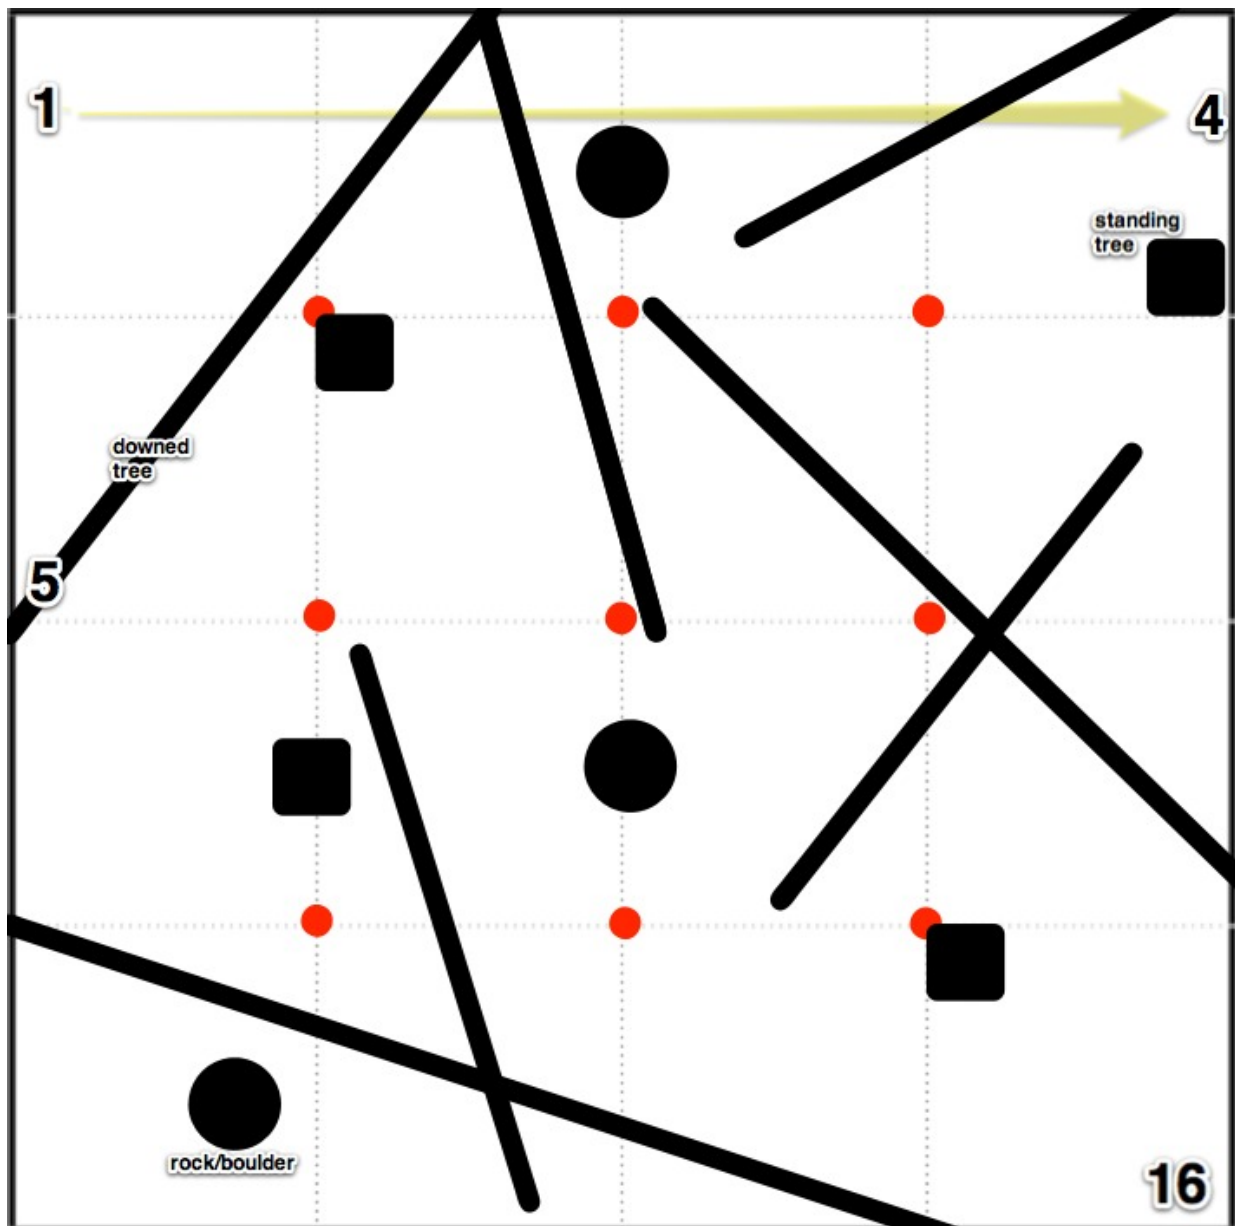

Figure 1: 2013 IEEE R5 Student Competition Playing Field Diagram - obstacles will be placed on the field in the positions shown
The file will provide the locations of 6 the desired samples; the sample locations will list the number of each sector containing a sample. The locations will remain constant throughout the round; each team will receive identical sample locations. The locations will change for the second round and the final round. The sample will be located in the middle of the sector specified. The successful robot will move to each location and collect a sample returning to sector 1 upon completion. There will be no specified order for sample collection. Due to the inherent problem of bringing a large quantity of soil into the Grand Ballroom of the Hyatt Regency, the soil samples will be simulated. Each 'sample' will consist of a disc, constructed of Delrin®, located on the floor in the specific location provided. The disc will be secured to the floor, in the center of the designated sector, using one square of Saunders UHU TAC ® Adhesive Putty (OfficeMax Item # 20109188). The adhesive square will be replaced after each round for all collected or moved samples. Each sample disc will be 3" in diameter and 0.5" in height. In keeping with the nature of the challenge, the robot will be required to collect the sample using a probe which moves vertically down from the robot. There is no specified location for this probe; it can be located on the front, back, or sides of the robot. The robot can use whatever method deemed appropriate to pick up the discs. The robot may either store the discs on the robot, or the robot may deliver each disk to sector 1 and then return to the field to collect the remainder. The playing field, with obstacles from a top-down viewpoint, can be seen in figure 1 below.
1. **downed trees** - simulated by a simple wooden dowels of 2" in diameter placed as shown across the playing field. The dowels will be nailed to the floor. As you can see from figure 1, the starting location is the such that the robot cannot go around these obstacles. In short, the robot must be able to go over the downed trees.
The field is broken up in to 16 2'x2' sectors as shown in Figure 1. The sectors will not be painted onto the surface; there will be a small, 1" in diameter, red dot to indicate the intersection points of the lines making up the sectors as shown in figure 1; the paint type is to be determined. The robot